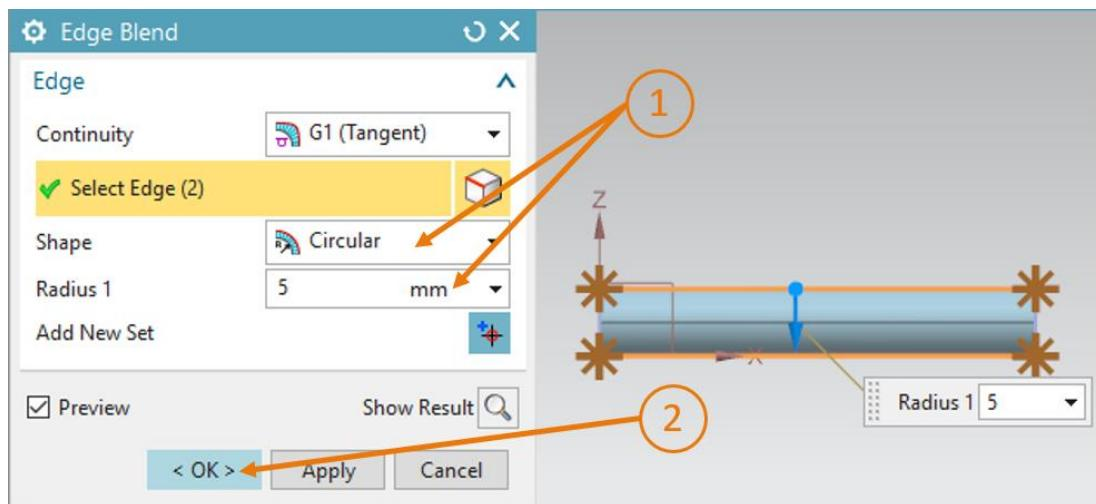

Figure 23: Edge rounding of the cuboid – Part 2
- You should now see the start and end points of the rounding on both sides of the body (see Figure 23). You can also recognize this from the parenthesized information in the "Select Edge" line, which in this case is "(2)". This stands for both edges. Select "Circular" for the shape and **5 mm** for the radius, as indicated in Figure 23, step 1. Confirm your entry with "**OK**" (see Figure 23, step 2).